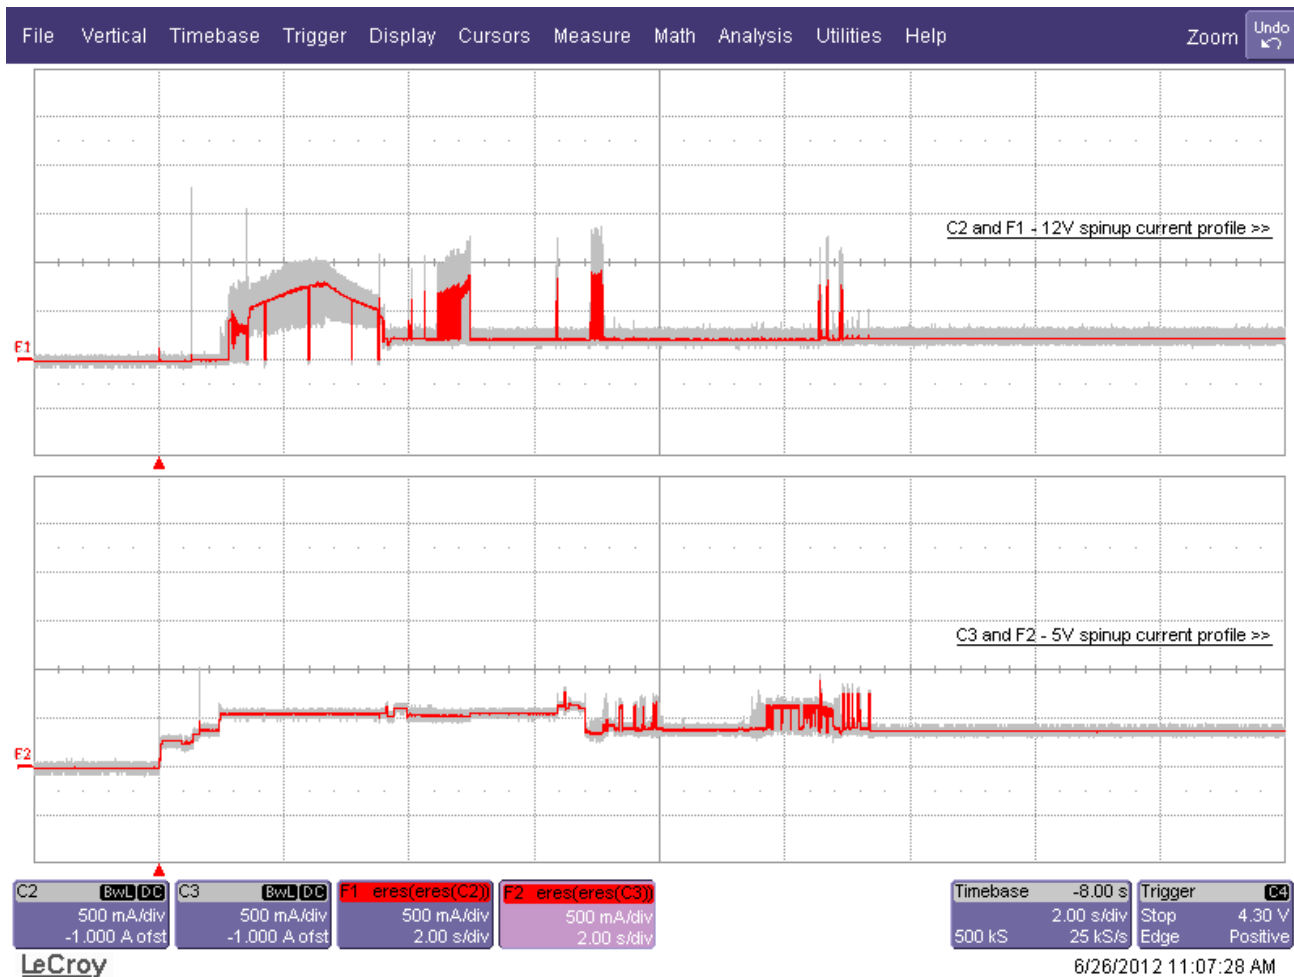
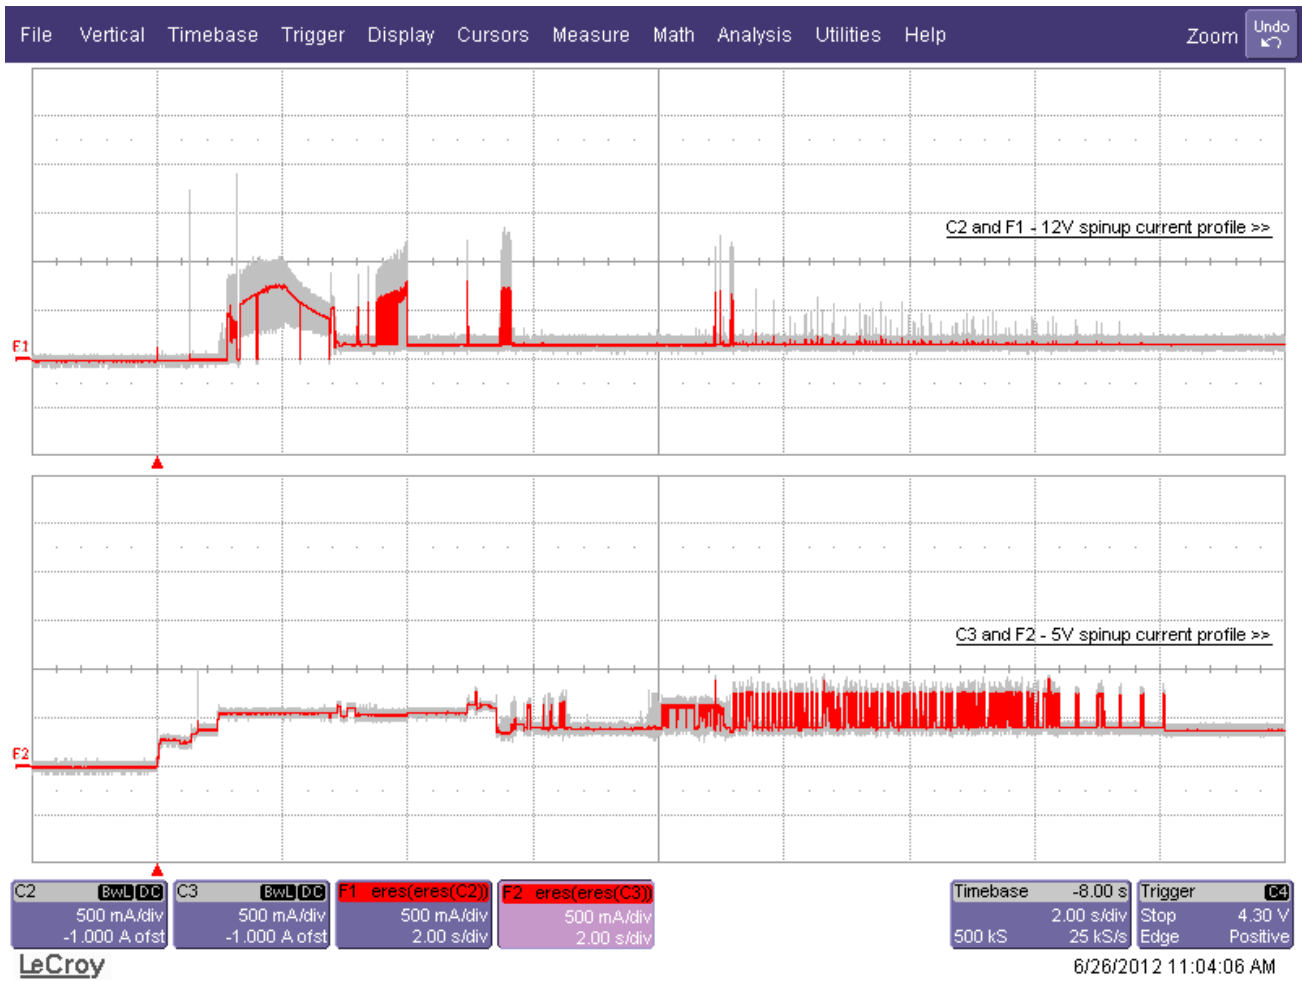

Figure 1. Current profiles for 900GB models
Figure 2. Current profiles for 600GB models
- [3] See +12V current profile in Figure 1 (for 900GB models) and Figure 2 (for 600GB models).